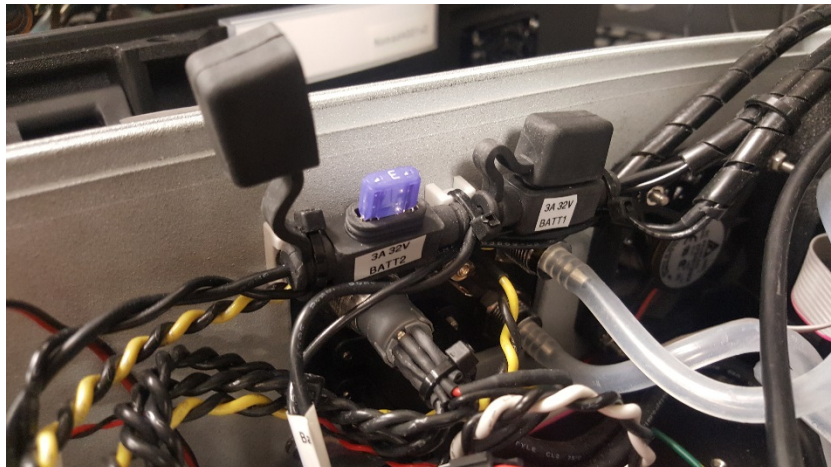

Figure 45. Fuses
1. Remove the fan's power connector from the *Analyzer Power Distribution Board*. Figure 45.